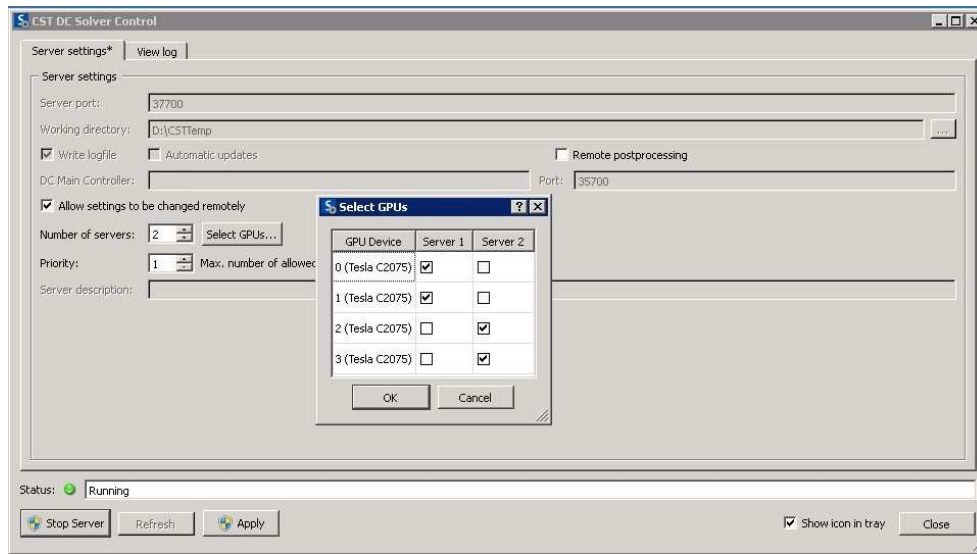

Figure 5: Assignment of GPUs to specific DC Solver Servers.
The CST Distributed Computing (DC) system can be used to assign the GPU cards of a multi-GPU system to different DC Solver Servers. The solver processes executed by a certain DC Solver Server will only be able to access the GPU cards assigned to this Solver Server (see fig. 5). Please refer to the online help documents of CST STUDIO SUITE (section "Simulation Acceleration", subsection "Distributed Computing") to learn more about the setup and configuration of the DC system.